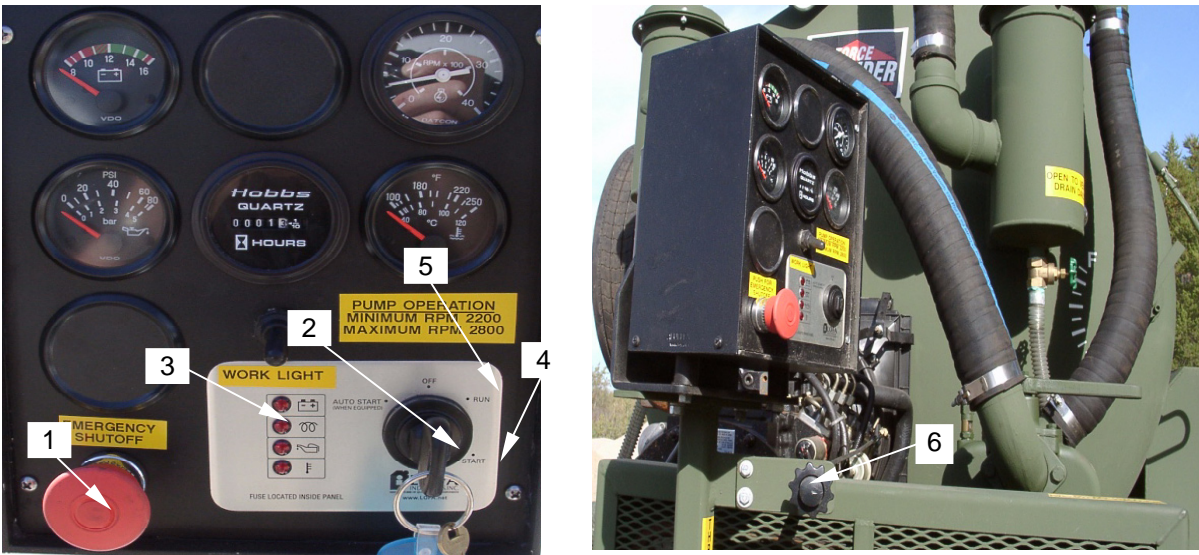

Figure 37. Control Panel and Throttle
- e. Ensure red emergency shutoff button (**figure 37, item 1**) on the control panel is pulled out.
- f. Turn engine ignition key (**figure 37, item 2**) to the first position (between RUN and START) to preheat engine.
- g. When preheat light (**figure 37, item 3**) goes out, start engine by placing key (**figure 37, item 2**) momentarily on START position (**figure 37, item 4**) until engine starts (key will automatically return to RUN (**figure 37, item 5**) position). Regulate engine idle speed to 850 RPM with throttle.
- h. Regulate engine speed with throttle (**figure 37, item 6**). Set not to exceed 2200 RPM. (Operating RPM range between 2200 to 2800).
- m. Regulate engine idle speed down to 850 RPM with throttle (**figure 37, item 6**).